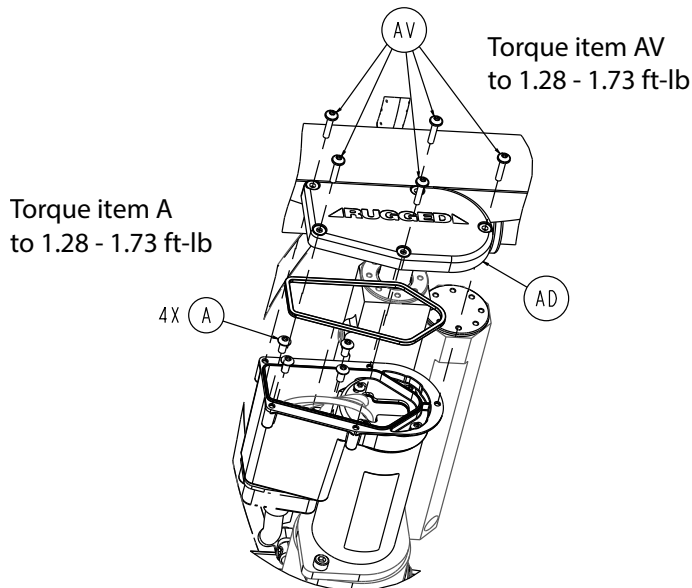

Figure 93 – Lift motor cable assembly components
17. Using a T20 Torx driver, remove the five round washer head tapping screws (AV) that secure the actuator end cap (AD) to the hydraulic assembly electrical box (Figure 93). Save the screws and end cap.
19. Using a T15 Torx driver, remove the four button head torx screws (A) that secure the lift motor cable assembly to the actuator cover (Figure 93). Save the screws.